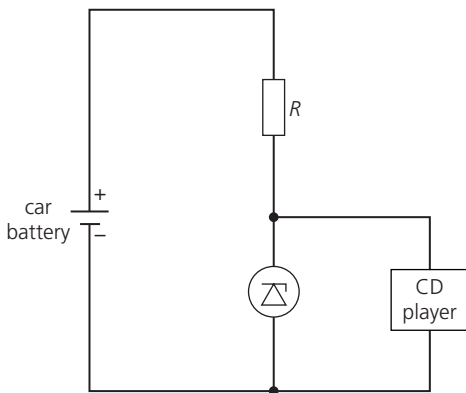

Figure 16
- a. The circuit would be as in Figure 16, with the car battery voltage as the input, and the CD player connected to the output from the Zener diode. The Zener breakdown voltage  $V_Z$  should be 6.0 V.